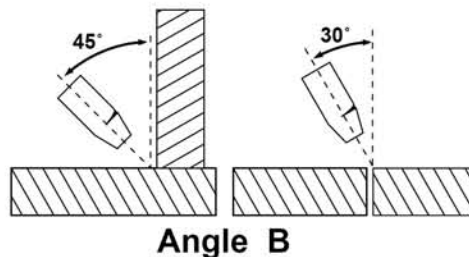

Figure 5. Gun Position, Angle B
2. Angle B (Figure 5) can be varied for two reasons: to improve the ability to see the arc in relation to the weld puddle and to direct the force of the arc.